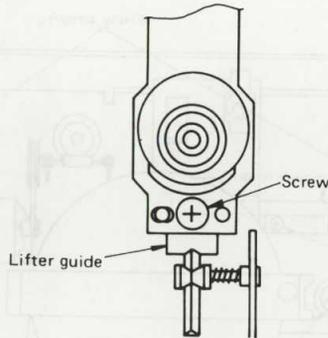

Fig. 13
- Remove the screw shown in Fig. 13 and remove the lifter guide from the tone arm.